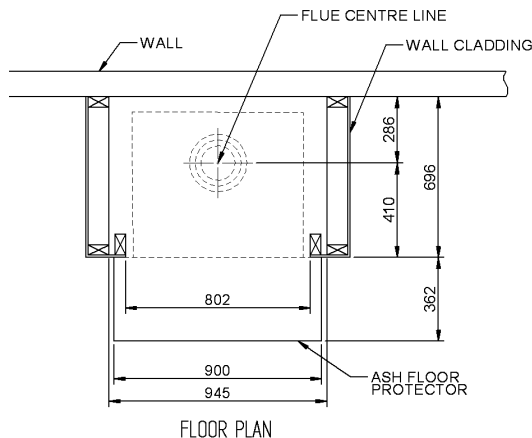

Fig. 2
4. **Frame up the enclosure** using normal 90x45mm dressed timber, verifying that it will be on the flue centerline. (See Fig. 2). The overall depth should be $(696 - t)$ mm, where 't' is the cladding thickness. The distance between the front uprights must be 802mm (use the supplied metal support angle as a spacer). Fix the metal support angle between the two front uprights at a height of 660mm above the bottom of the shielding (zero clearance) box.